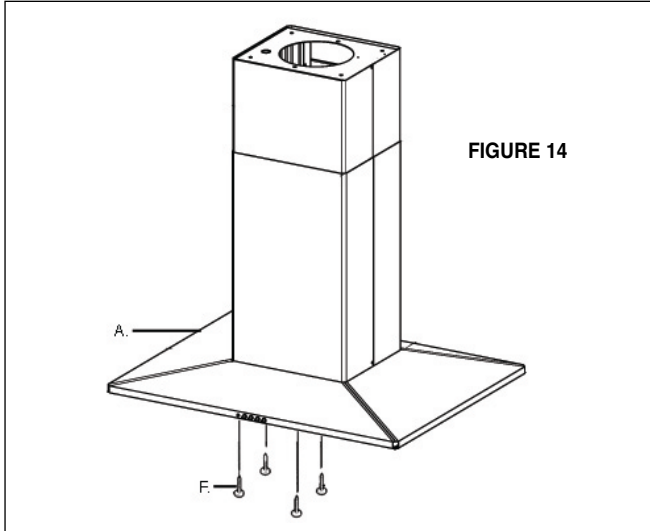

FIGURE 14
4. From below, attach the CANOPY SECTION (A in FIGURE 14) to the assembled chimney support using the four bolts provided (F in FIGURE 14).